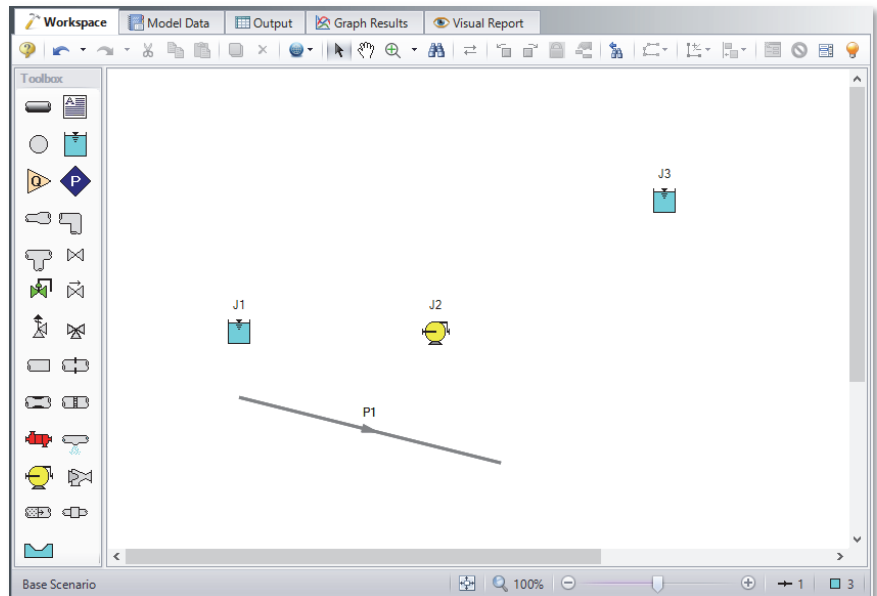

Figure 2.5c Pump Sizing model with first pipe drawn
- **To create a pipe,** click the Pipe Drawing Tool icon on the Toolbox. The pointer will change to a crosshair when you move it over the Workspace. Draw a pipe below the junctions, similar to that shown in Figure 2.5c.